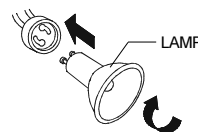

FIG.2A
- ES16:** Insert the pins of the lamp base into the socket and rotate the lamp clockwise. (Fig.2A)